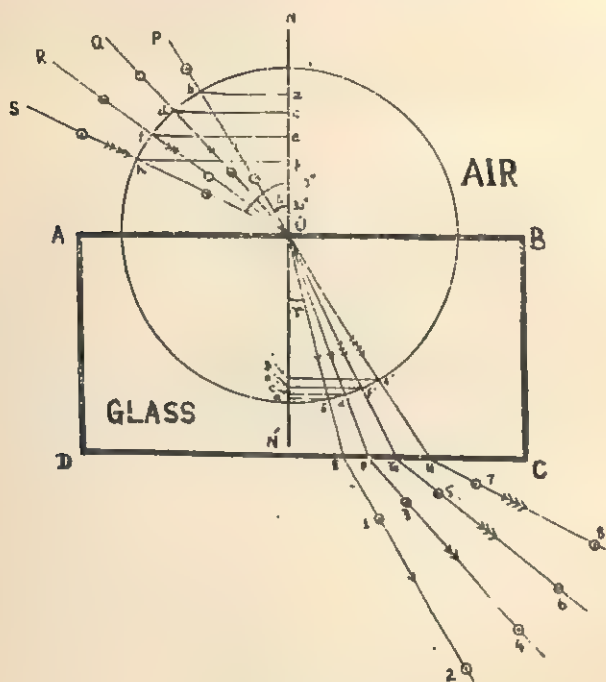

Fig. 11.13.
**Procedure.** (1) Fix the paper sheet on the drawing board and then place the glass slab on it. Mark the boundary  $ABCD$  of the slab on the sheet with a sharp pencil as shown in Fig. 11.13.
Look through the glass slab along the plane of the paper from the side  $CD$  and move your head until the images of two pins are seen. Using only one eye, adjust the position of your head such that the two images of the pins are in the same straight line. Fix other two pins, vertically as marked 1 and 2 in the Fig. 11.13 such that all the four pins appear to be along the same straight line. Remove the pins 1 and 2 and mark their positions by encircling the pin points on the paper sheet.
Draw a circle of suitable radius taking the point  $O$  as centre and draw perpendiculars on the normal  $NN'$  from those points at which the incident rays and refracted rays meet the circumference of this circle (as shown in the Fig. 11.13). The lengths of these perpendiculars drawn are measured. Now,  $\frac{\sin i}{\sin r}$  for the case in which  $PO$  and  $OE$  are the incident and the refracted rays respectively, is given below